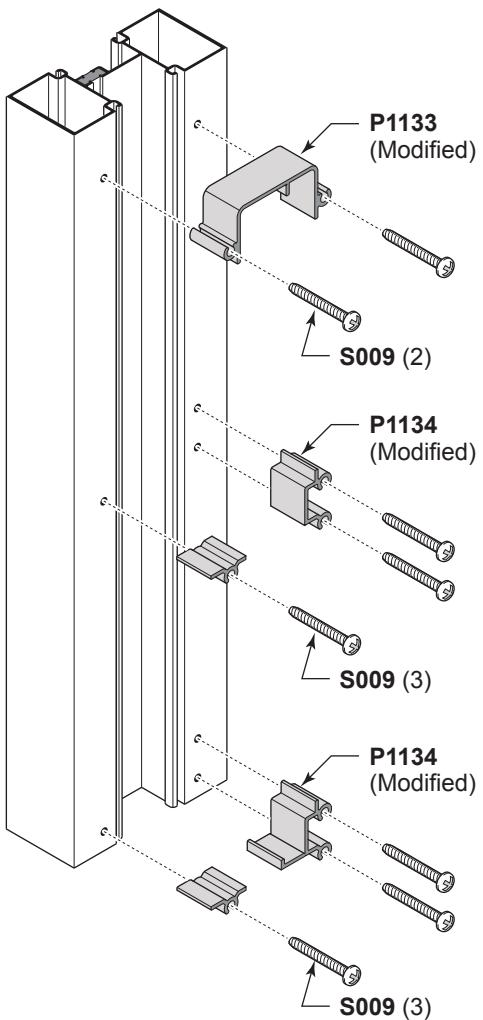

Fig. 35.1
- A. Install shear blocks onto vertical and closure pocket members with S009 #10 x 1 3/4" PH screw as shown in **Fig. 35.1**.